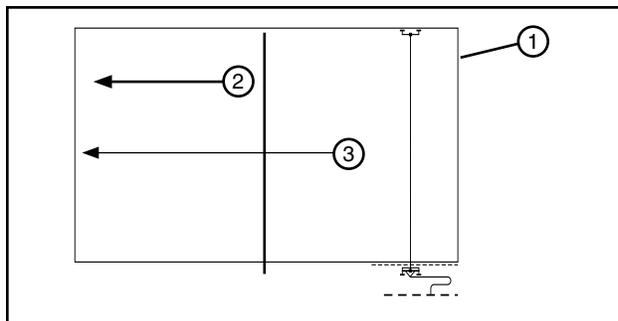

Figure 38-4 1. Field
2. Reverse the system direction, set the percentage timer, and run the system wet back to the original end of the field. See Figure 38-4.